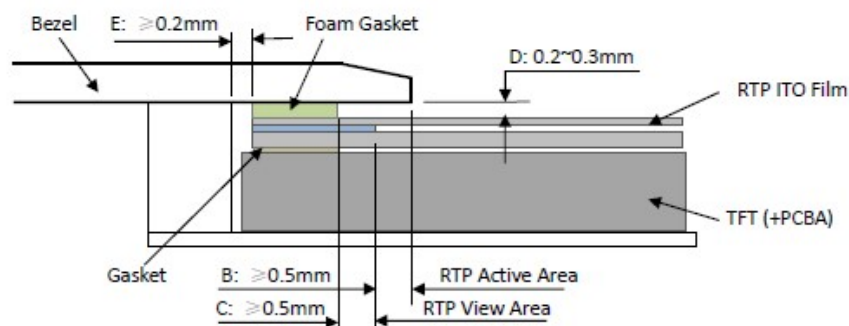

Figure 4
- It should bezel touching the RTP Active Area (A.A.) to prevent abnormal touch. It should left gap $D=0.2\sim 0.3\text{mm}$ in between. (Figure 4)
- Outer bezel design should take care about the area outside the A.A. Those areas contain circuit wires which is having different thickness. Touching those areas could de-form the ITO film. As a result bezel the ITO film be damaged and shorten its lifetime. It is suggested to protect those areas with gasket (between the bezel and RTP). The suggested figures are $B\geq 0.50\text{mm}$; $C\geq 0.50\text{mm}$. (Figure 4)
- The bezel side wall should keep space $E=0.2\sim 0.3\text{mm}$ from the RTP. (Figure 4)
- 为避免面框直接压在动作区 (A. A.) 上造成误动作, 面框与电阻触摸屏 (RTP) 之间应留有一定的空隙 $D=0.2\sim 0.3\text{mm}$ 之间. (附图 4)
- 设计面框时, 要注意用面框保护触摸屏四周的非保证操作区域, 因为布线区域在此处形成一台阶, 在此区域附近操作时 ITO Film 变形较大, 容易导致 ITO 损坏而降低寿命. 为保护 RTP 和避免误操作, 在 RTP 与面框之间垫缓冲物 (Gasket), 我们建议设计面框应覆盖动作区的边缘, 面框边缘到 V. A. 区的距离 $B\geq 0.50\text{mm}$; 垫圈内边缘到 V. A. 区的距离 $C\geq 0.50\text{mm}$. (附图 4)
- 在设计面框与 RTP 组装时, 应考虑到面框内侧与 RTP 外侧的间距 $E\geq 0.2\text{mm}$. (附图 4)